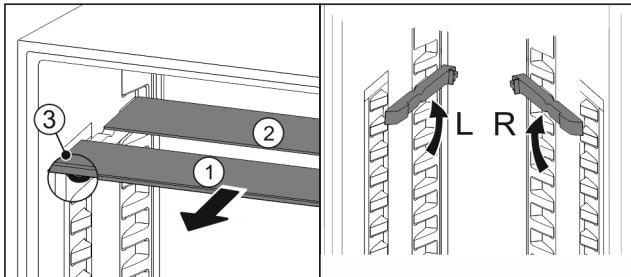

Fig. 133
- Pull the glass panels out Fig. 133 (1) from the front, one at a time.
- The glass panel Fig. 133 (1) and trim strip are at the front.
- The stops Fig. 133 (3) point down.